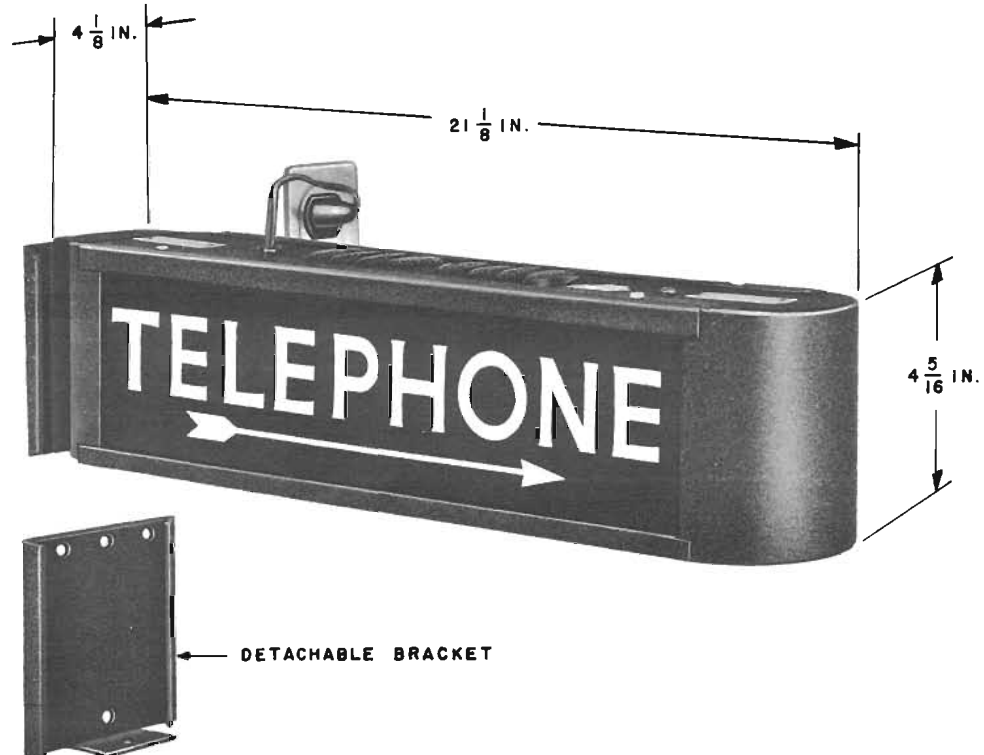
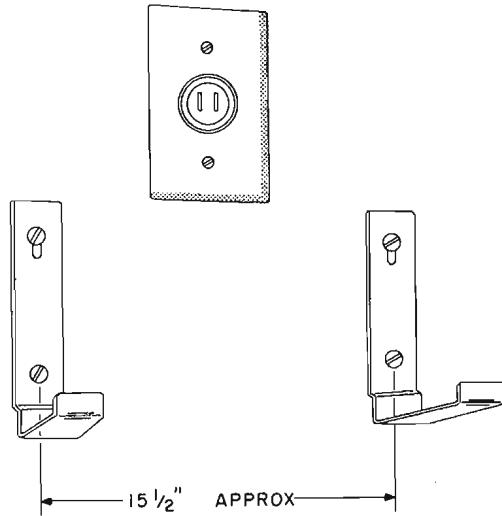

Fig. 6 — Sign, KS-14154, List 2 and 8
Fig. 7 — KS-14154, List 3 Bracket
4.01 The KS-14154, List 2 sign is equipped with a detachable mounting bracket (Fig. 6). Other type mounting brackets are shown in Fig. 7 and 8.